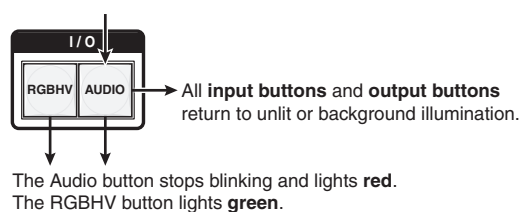

Figure 3-58 — Deselect Audio mode
5. Press and release the Audio button (figure 3-58).